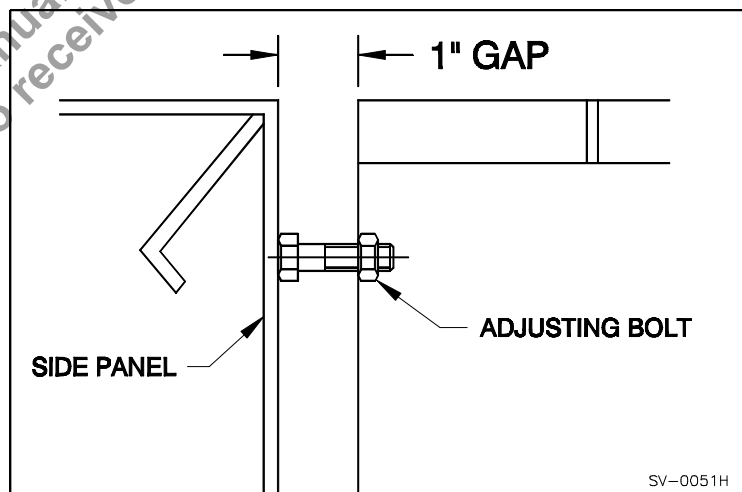

Figure 43: One Inch (1”) Gap
5. ___ Ensure there is a one inch (1”) gap between the deck and side pan curb angles. Confirm this on both sides of the dock leveler. Once the gaps are confirmed as correct, ensure the adjusting bolts are in contact with the side panels. See “Figure 43: One Inch (1”) Gap” on page 35. Use the adjusting bolts to increase the gap to 1” if required.
11. Once the concrete is cured, remove the side adjusting bolts. (see “Figure 43: One Inch (1”) Gap” on page 35).